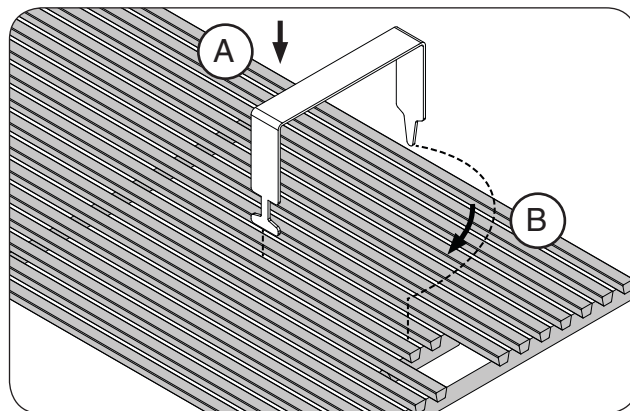
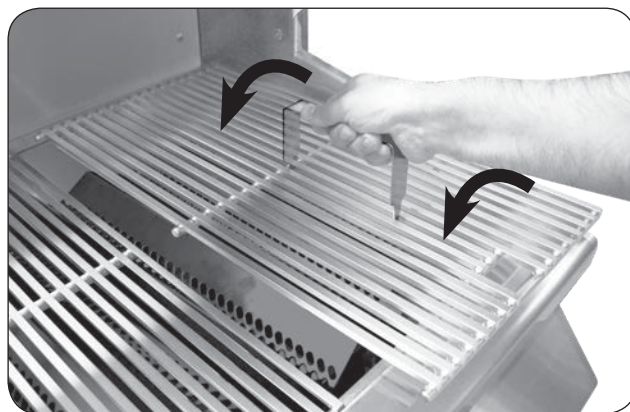

Fig. 20-1 Install cooking grids
Fig. 20-2 Install cooking grids
1. With the prongs facing downward, insert the notched-end of the lifter between two grid rods, then rotate, as shown in Fig. 20-1, A & B.
2. Insert the rear pointed-end of the lifter between the same two rods (see Fig. 20-1, B) and carefully lift the cooking grid and place onto the front and rear grid rests of the grill (see Fig. 20-2). Repeat for all other cooking grids.